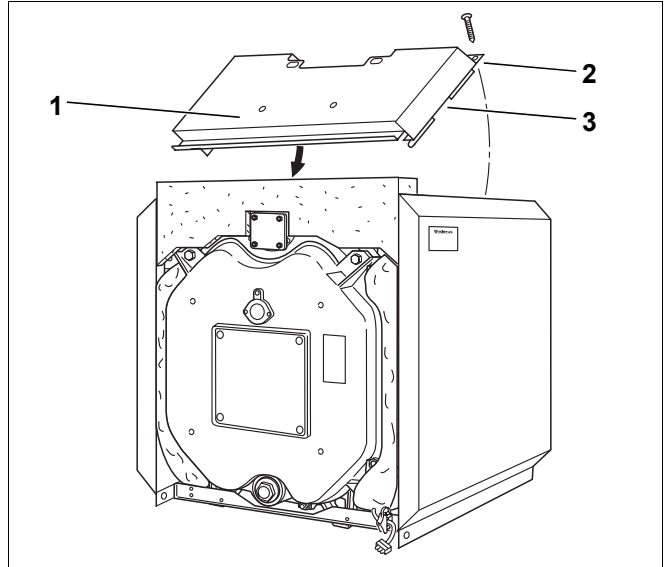

Fig. 36 Installation of the front hood
- Position the top at the front (Fig. 36, **Item 1**) between the side walls so that the cut-out engages (Fig. 36, **Item 3**) above the cross support bracket.
- Secure the top with one self-tapping screw on each (Fig. 36, **Item 2**) of the side walls.